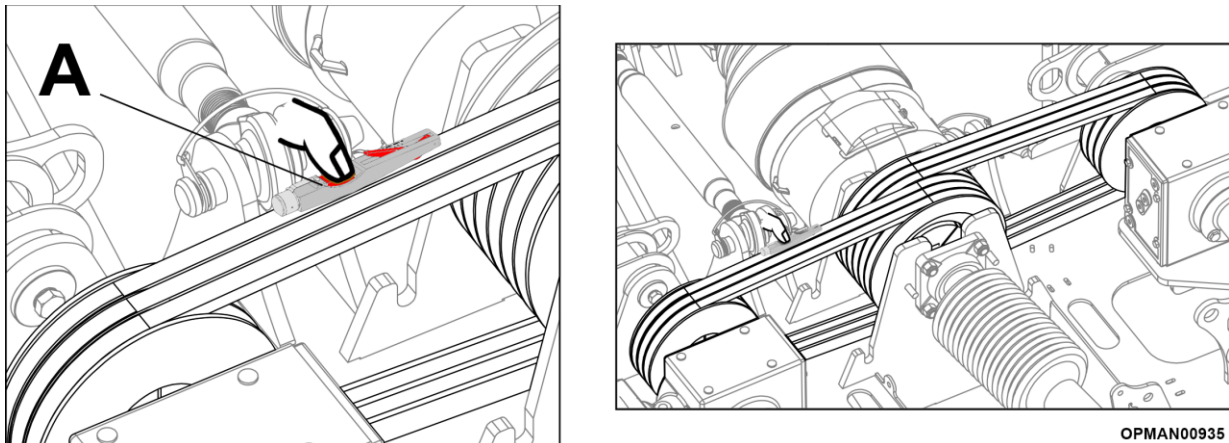

Figure 5.37 – Primary Drive Belt Tension Overview
Tension is correct when a force is exerted on the belts at their mid-point between the inner and outer pulleys which deviates the belts; see Figure 5.37 (A).